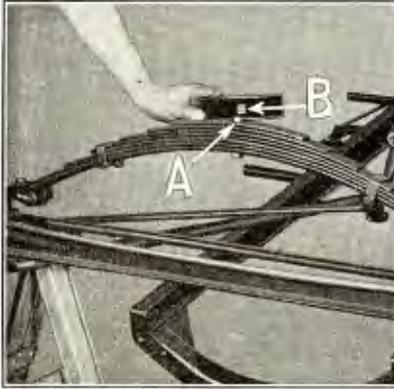

Fig. 62
- 62 Install spring pad**—Place front axle assembly on jacks. Position spring pad on top of front spring, making sure that head of tie bolt (See “A” Fig. 62), enters hole “B” in spring pad.